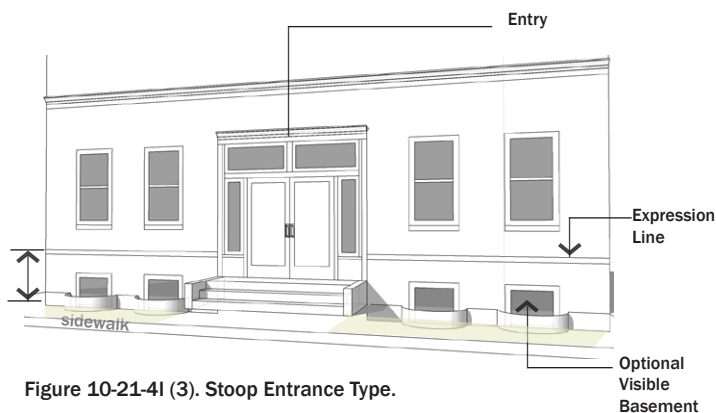

Figure 10-21-4I (3). Stoop Entrance Type.
- (f) Landscape Area. A minimum five (5) foot wide landscape area is required within the build-to zone along the length of this entrance type with the exception of walks accessing the building.
5. **Porch Entrance Type.** (Refer to Figure 10-21-4I (4)). A porch is a raised, roofed platform that may or may not be enclosed on all sides. If enclosed, the space shall not be climate controlled.